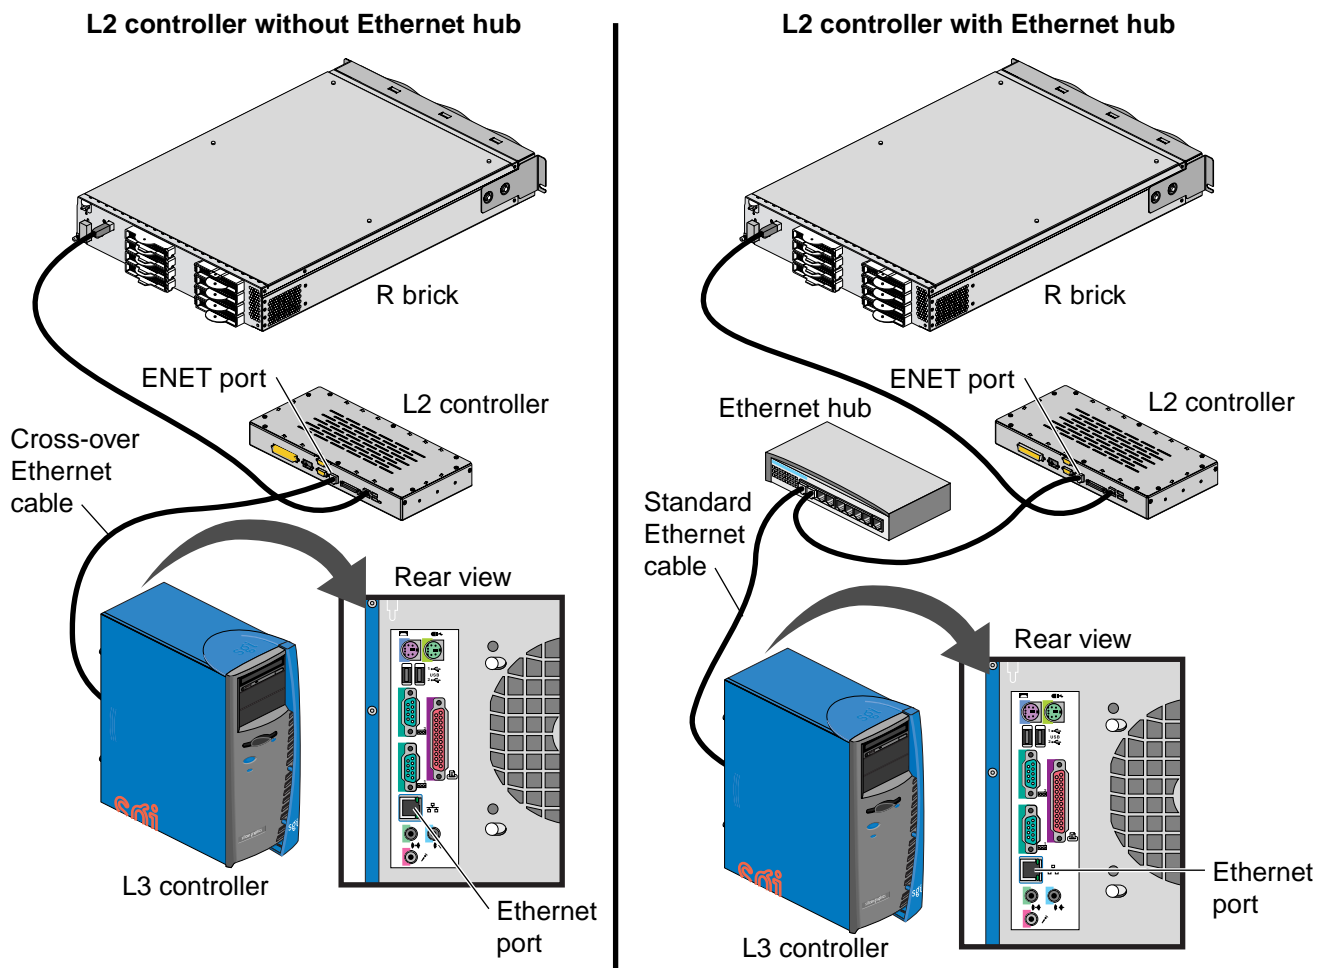

Figure 1-8 SGI Origin 3400/3800-to-L3 Physical Connections (Ethernet)
- **If your system does not use an Ethernet hub** (refer to Figure 1-8): Connect the workstation Ethernet port to the ENET connector at the rear of the L2 controller via a cross-over Ethernet cable.
- **If your system uses an Ethernet hub** (refer to Figure 1-8): Connect the workstation Ethernet port to an Ethernet connector at the rear of the Ethernet hub via a standard Ethernet cable.
Note: Figure 1-8 shows Ethernet connections to a Silicon Graphics 230 visual workstation-based L3 controller solution. The connections are identical for Customer Service laptop-based L3 controller solutions; use the same cables to connect to the Ethernet port on the laptop.